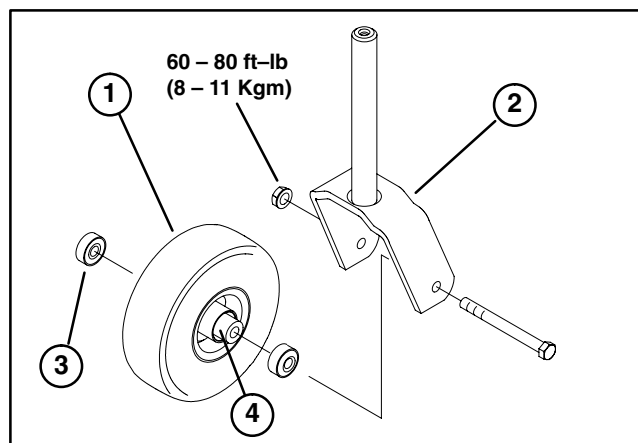
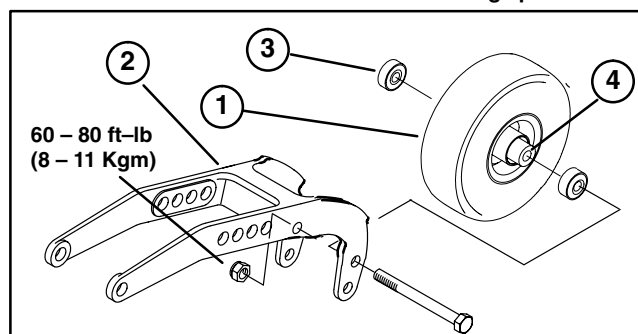

Figure 18
Figure 19
2. Remove locknut from capscrew holding castor wheel assembly between front castor fork (Fig. 18) or rear castor pivot arm (Fig. 19) Grasp castor wheel and slide capscrew out of fork or pivot arm.